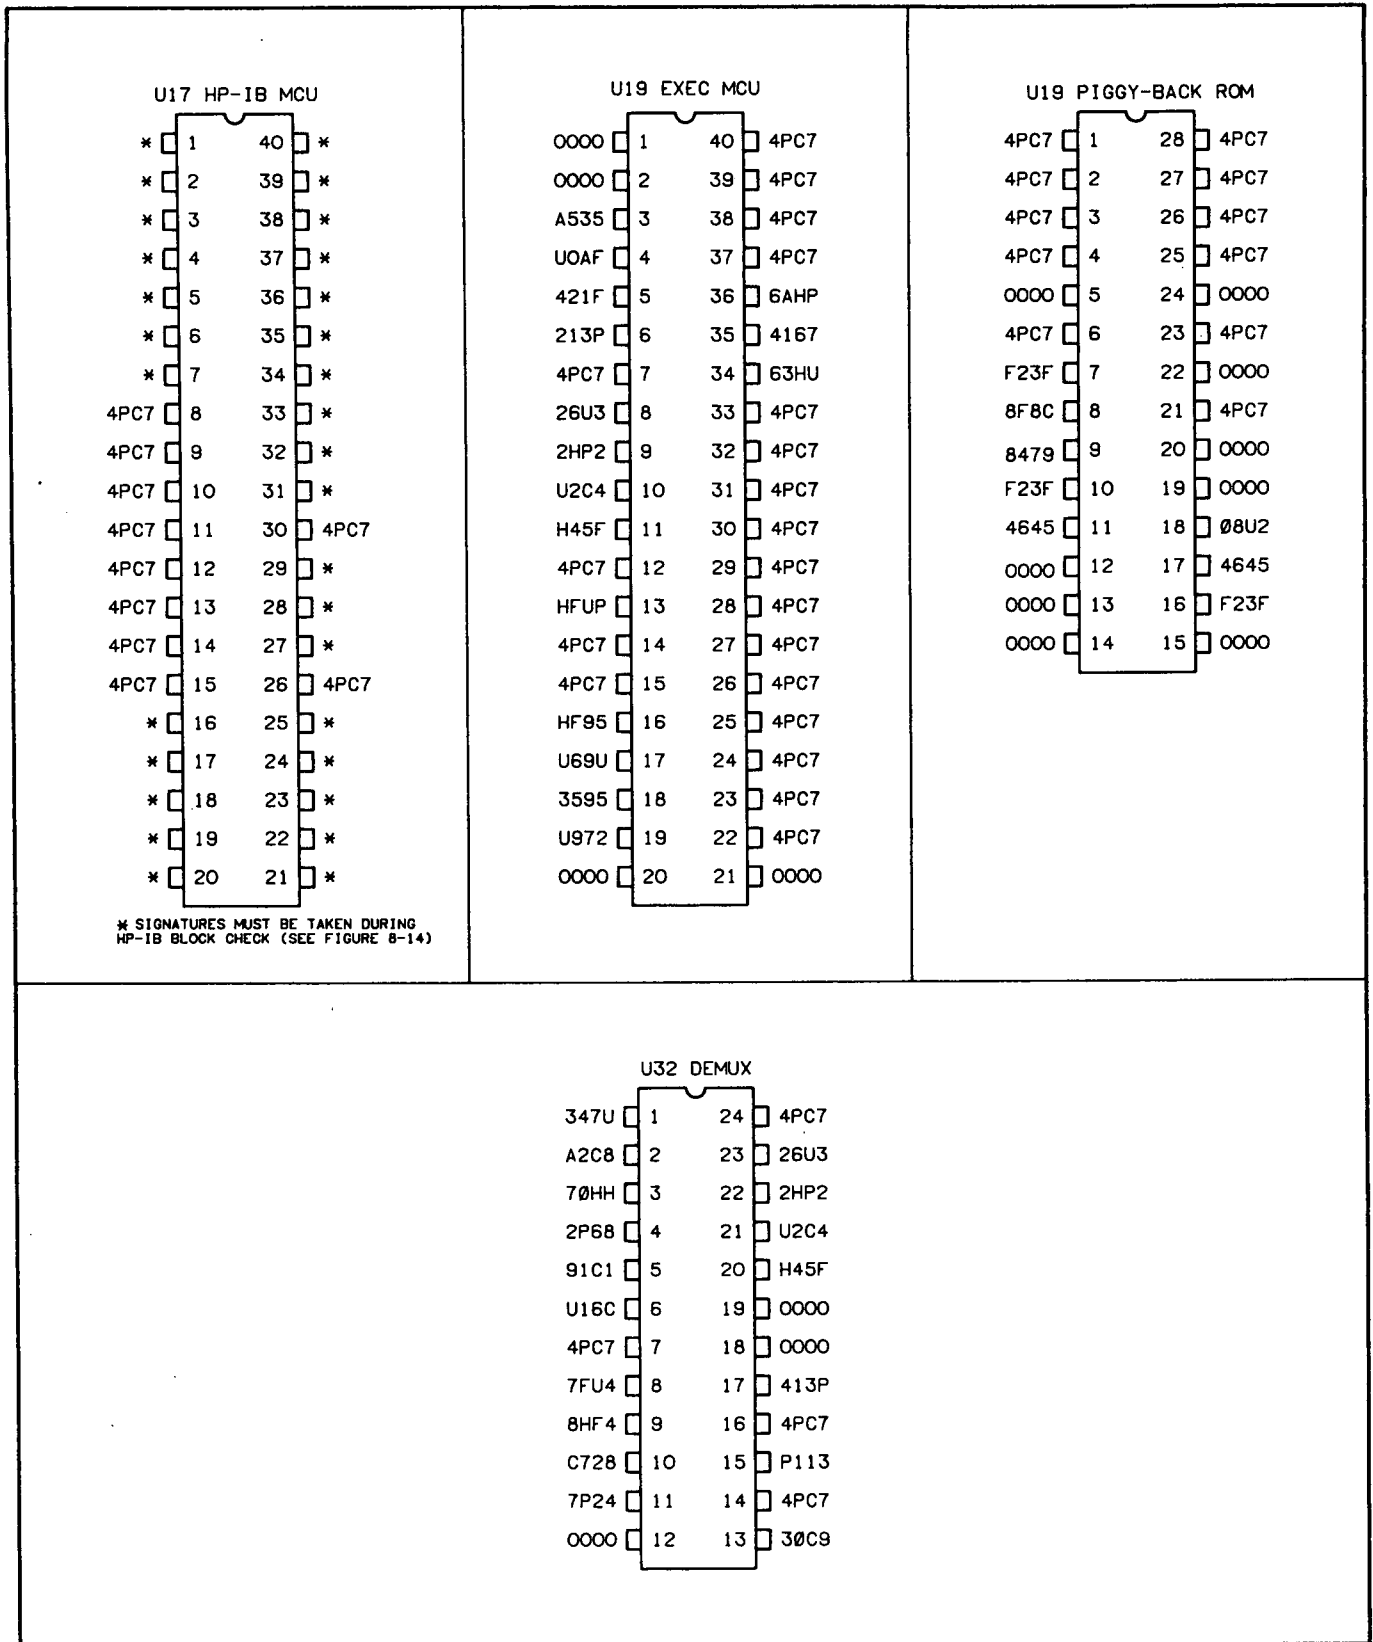

Figure 8-13. Executive Block Signatures
3. Take signatures. Signatures should match those shown in *Figure 8-13*.